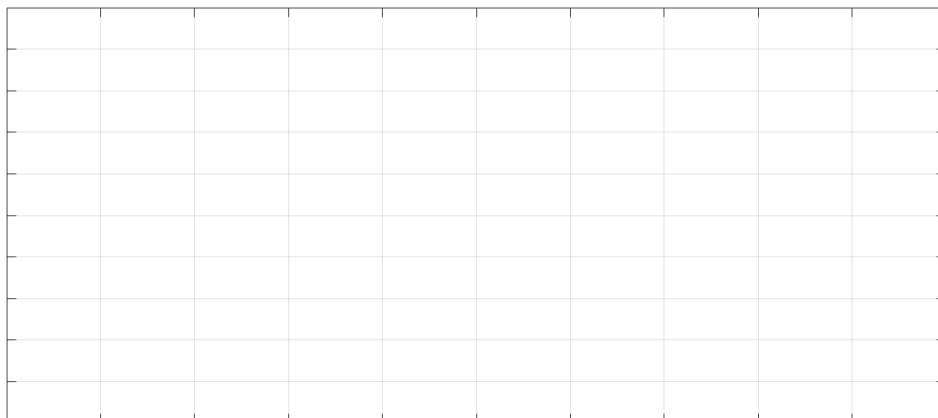

Figure 6: Phasor diagram of an RC Circuit.
7. Draw the Phasor diagram of the RC circuit in Fig. 6.